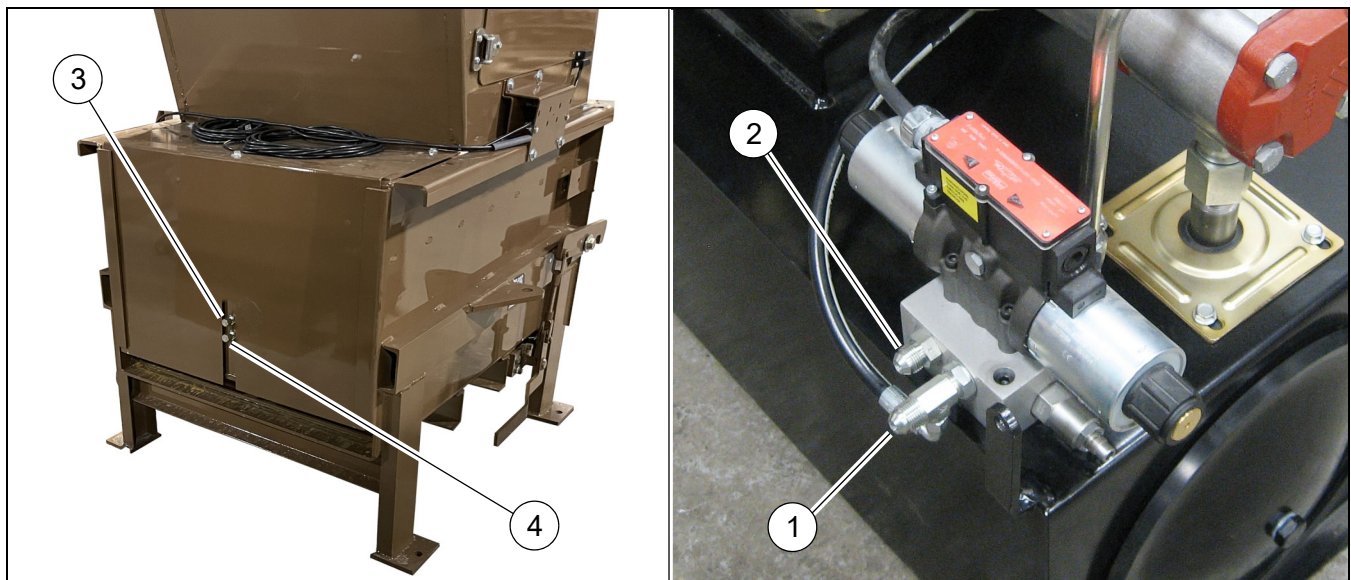

Figure 8
8. **Hydraulic Hose Connections:** Hydraulic hoses are connected to and shipped with the Power Pack. The standard length for the hoses is 12 feet unless a different length was ordered. Connect hoses provided from the power unit. The hose for the ram cylinders extend function is connected to the tee fitting (**Figure 8, 1**) in the (A) port of the manifold. The hose for the ram cylinders retract function is connected to the adapter fitting (**Figure 8, 2**) in the (B) port of the manifold.
Connect the extend hydraulic hose to the top fitting (**Figure 8, 3**) located on the back of compactor.
Connect the retract hydraulic hose to the bottom fitting (**Figure 8, 4**) located on the back of compactor.